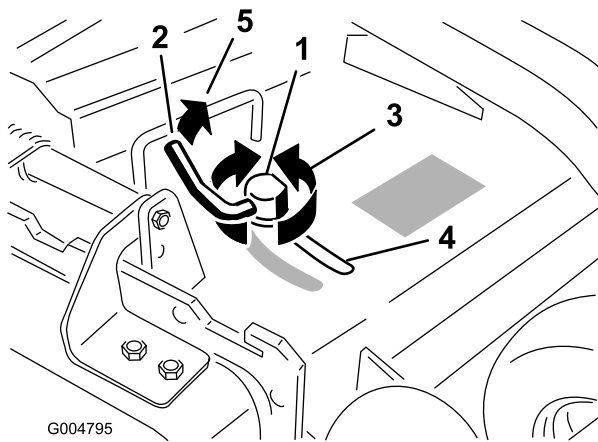

Figure 26
3. To adjust the cam lock, swing the lever up to loosen the cam lock (Figure 26).
5. Swing the lever back over to tighten the baffle and cam lock (Figure 26).